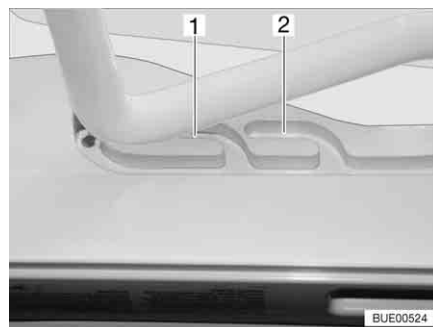
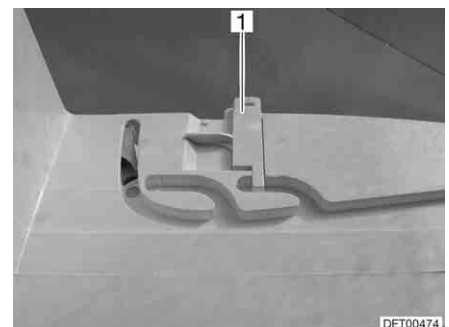

Fig. 79 Heki skylight in ventilation position
Fig. 80 Ventilation position locking mechanism
The Heki skylight can be put in two ventilation positions: Bad weather position (Fig. 79,1) and central position (Fig. 79,2). Depending on the model, the skylight can be locked in the central position with the latch (Fig. 80,1).
- Push the bar slightly upwards and into the selected guide (Fig. 79,1 or 2) and lock if necessary.